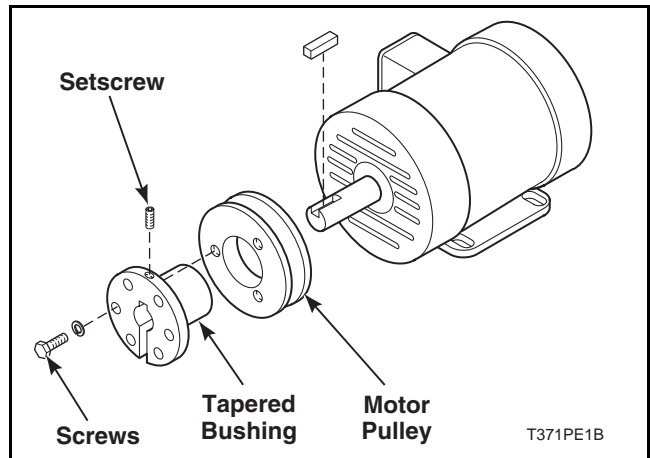

Figure 15
Refer to *Figure 15*.
- h. Remove screws from tapered bushing. Refer to *Figure 15*.